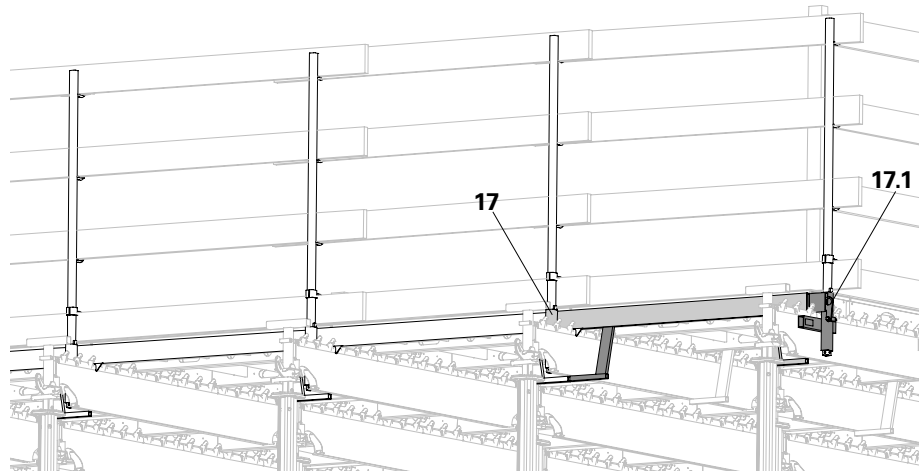
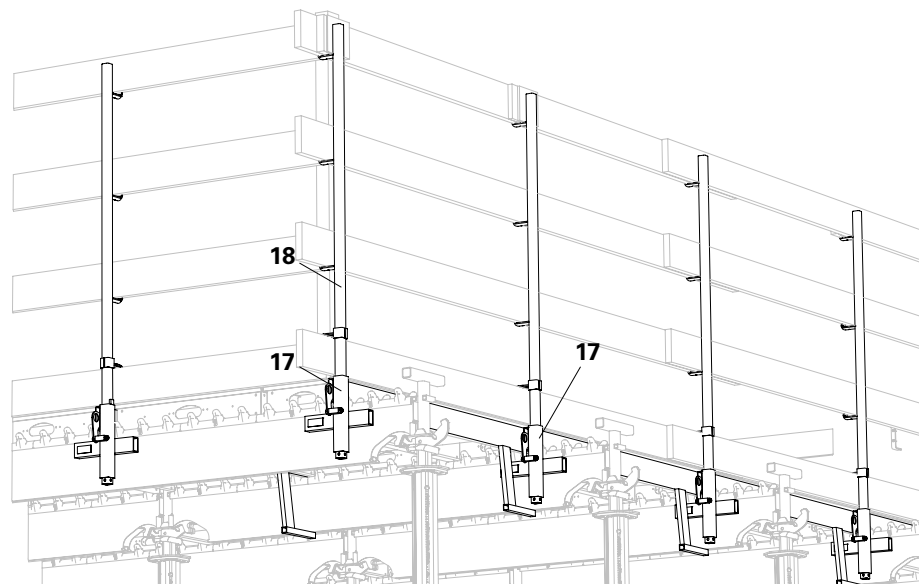

Fig. A8.09
Fig. A8.10
2. Mount all other guardrail holders (17) with the mounting bar pointing to the right. (Fig. A8.09) The mounting bars overlap in the first bay.
3. Insert guardrail posts (18).
4. Insert guardrail boards and secure with nails. (Fig. A8.10)